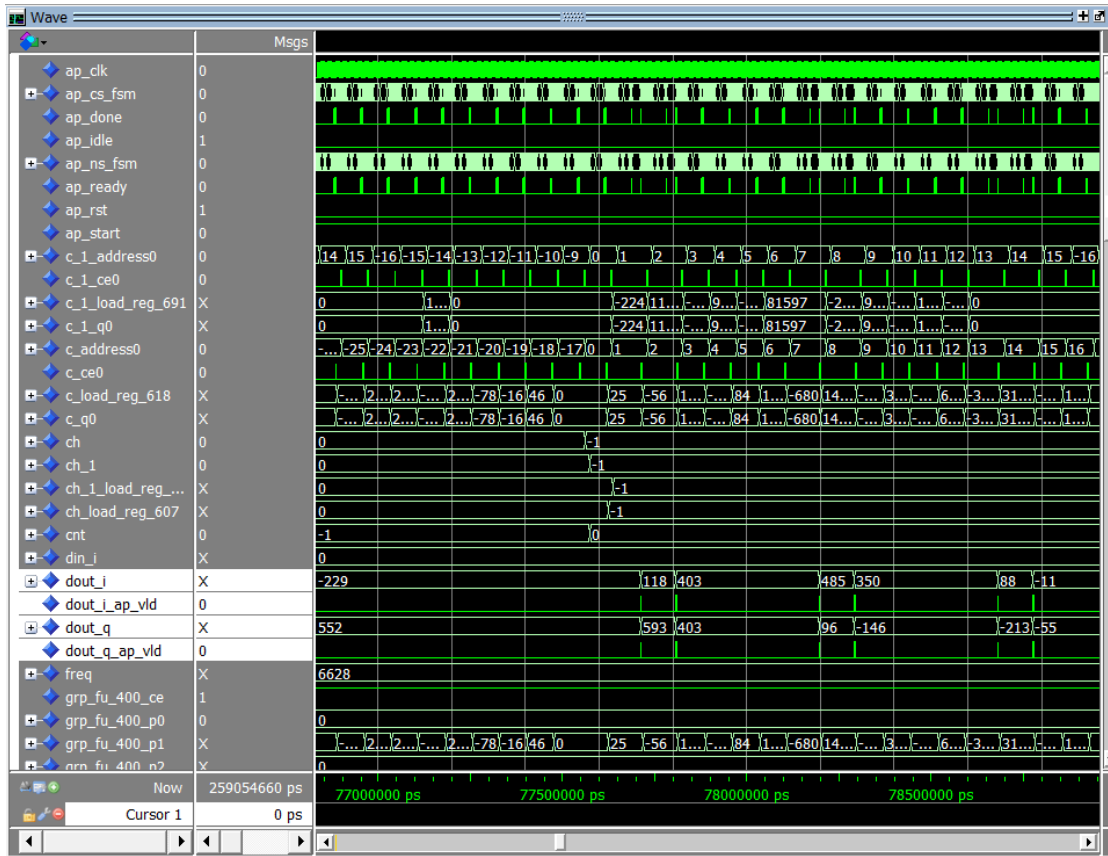

Figure 182: Viewing the Trace File in ModelSim
6. Add the signals to the trace window and adjust to see a view similar to **Figure 182**.